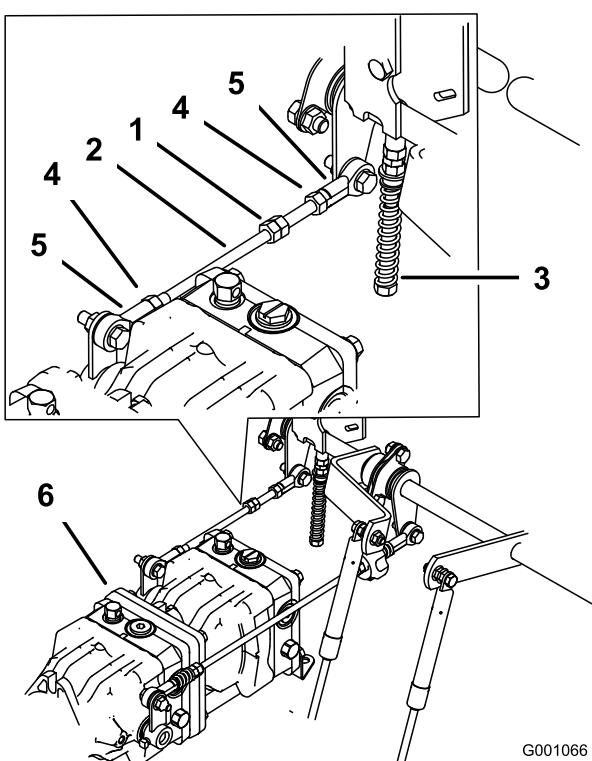

Figure 74
1. Loosen the locknuts at the ball joints on the pump control rod (Figure 74).
3. Adjust the pump rod length by rotating double nuts on rod, in the appropriate direction, until wheel is still or slightly creeps in reverse (Figure 74).
6. Tighten the locknuts at the ball joints (Figure 74).